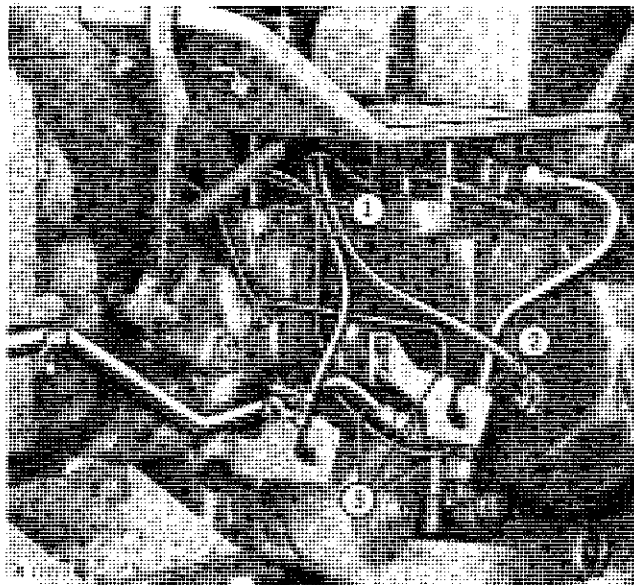

Fig. 16—Left-Hand Side of Transmission Case
1. Disconnect the clutch return spring (Fig. 16). Remove the platform. On some tractors it may be necessary to remove the rockshaft selector knob and the differential lock pedal pivot pin.